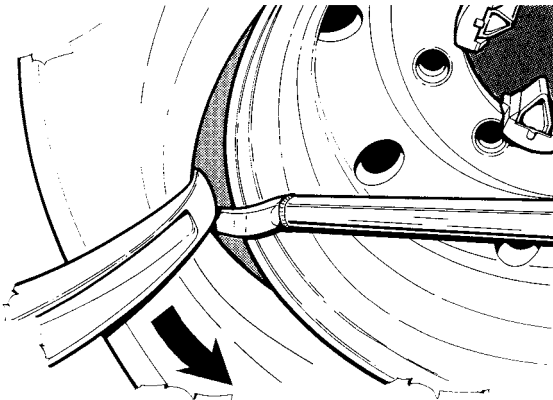

Fig.30
3. Lift the chuck arm enough to clear the hook 1" - 1 1/2" from the rim flange. Move the mount/demount tool towards the outside. This will allow you to place the long bar in between the bead and the rim flange for necessary prying (fig.30).